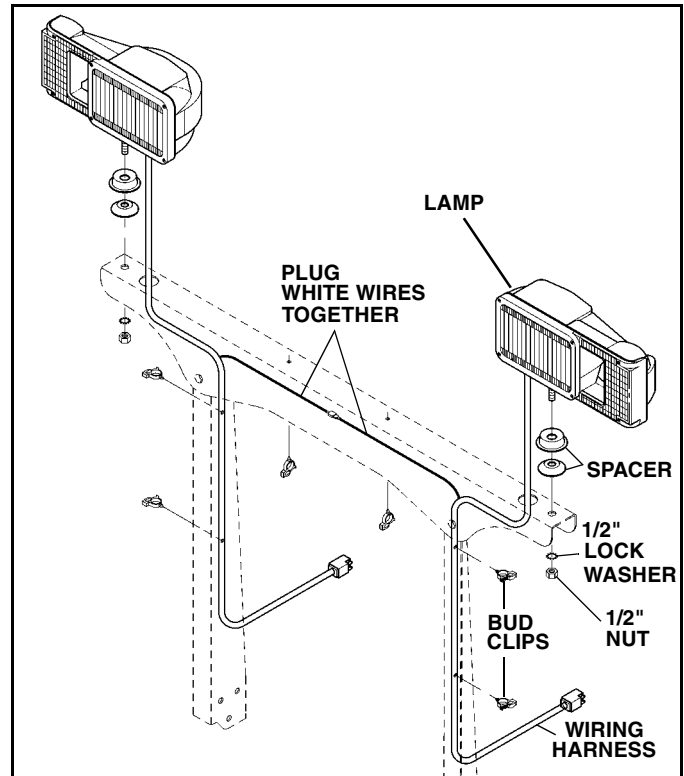

Figure 1-5
13. Mount lights to light bar. Route the harnesses through the light bar, through the access hole and down the inside of the light bar supports. Route the white wire from each lamp along the underside of the light bar and connect. (See Figure 1-5)